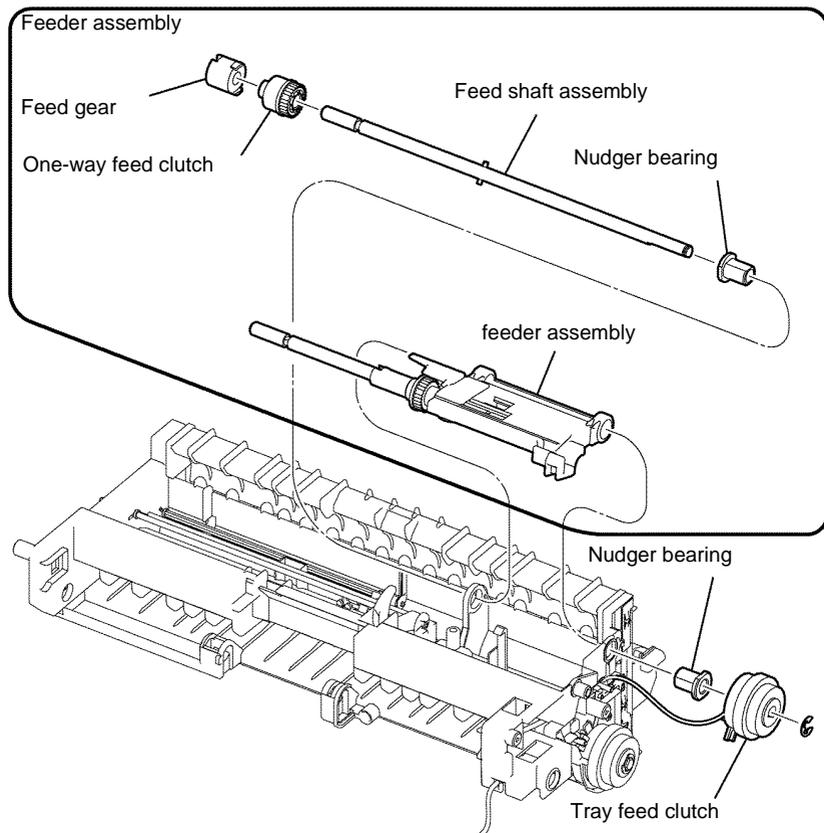

Figure 1 Feeder assembly removal
19. Turn the registration transport assembly upside down, remove the E-ring that fixes the tray feed clutch. Remove the tray feed clutch and nudger bearing, Figure 1
20. Remove the feed gear, one-way feed clutch, feed shaft assembly, and nudger bearing, Figure 1.
21. Remove the feeder assembly, Figure 1.